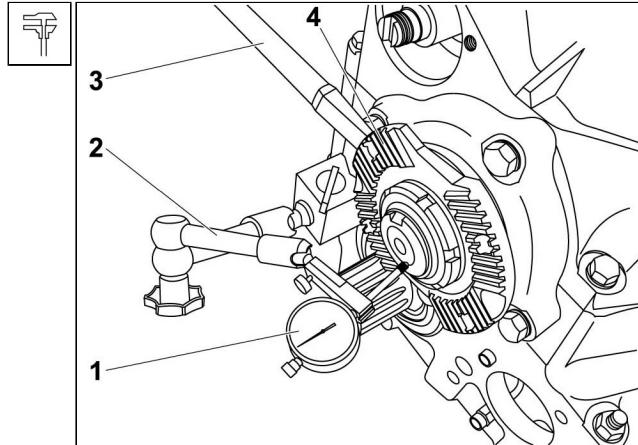

Fig. 3.14 Inspection of the input shaft axial clearance
3. Apply the grease to the input shaft splining, fit carrier **5** and shaped ring **1**, mount nut **2**, shift in the 1st or 2nd gear speed and use the wrench **URN 1296** to tighten the nut to **400 ± 40 Nm**. Use the dial indicator c/w magnetic stand **1** (See Fig. 3.14) to check the axial clearance. Lock the nut with a punch in the grooves – the min. radius of the tool is **2.5 mm**.